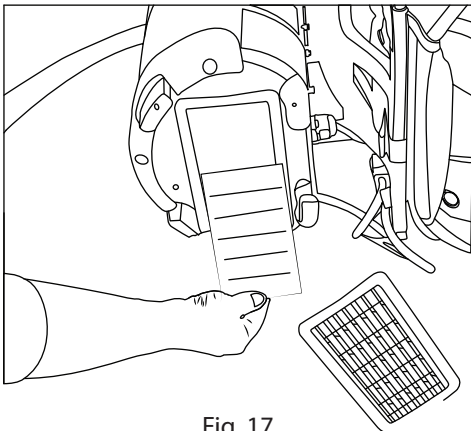

Fig. 17
3. Remove the exhaust filter from the holder (**Fig. 17**)